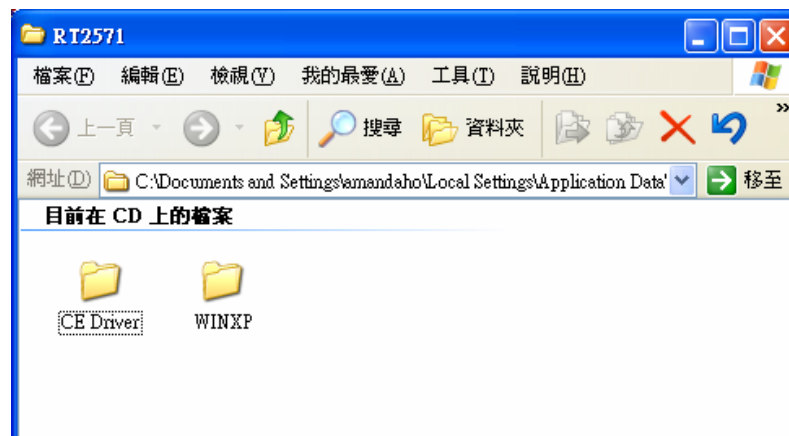

Figure 7-39: Wireless Driver OS Folders
Step 2: A new window opens (**Figure 7-39**). Select an OS folder. Double click the **Setup.exe** to install the LAN driver.